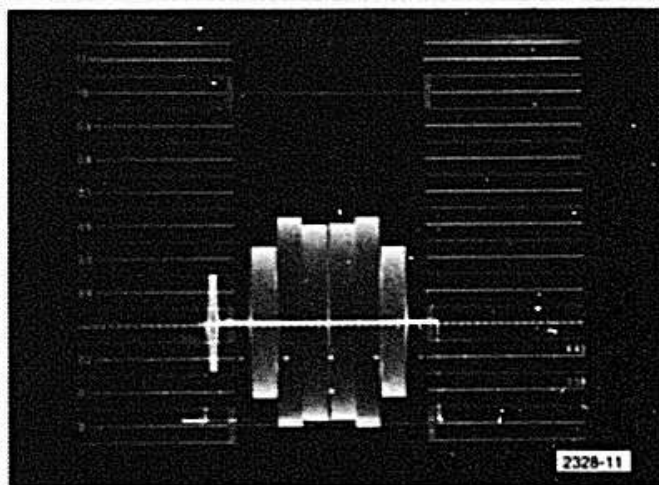

Fig. 2-3. Two consecutive lines overlaid.
e. CHECK—for a null at the green-magenta transition of the color bar display on the waveform monitor, similar to that shown in Fig. 2-3.